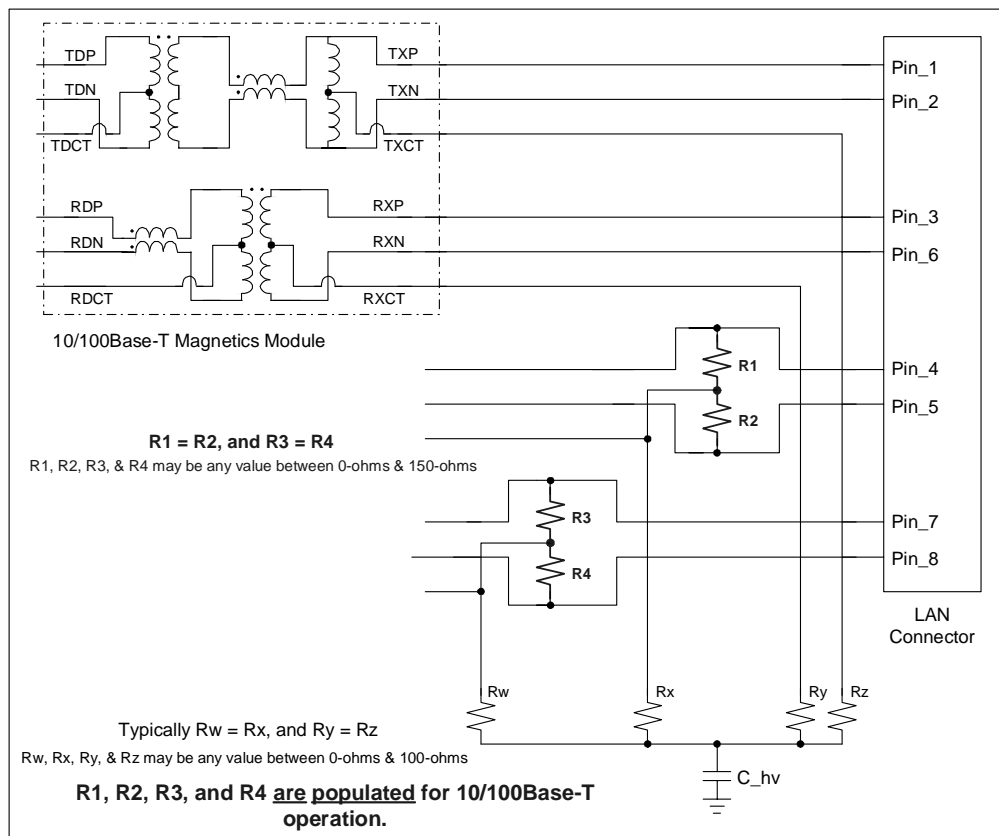

Figure 8. Replacement of magnetic for 10/100 LAN Controller with optional resistors populated.
3. Replace the magnetic for 82540EM with the one for 82562EZ, and populate R1/R2 and R3/R4 for 82562EZ LOM design. Refer to Figure 8